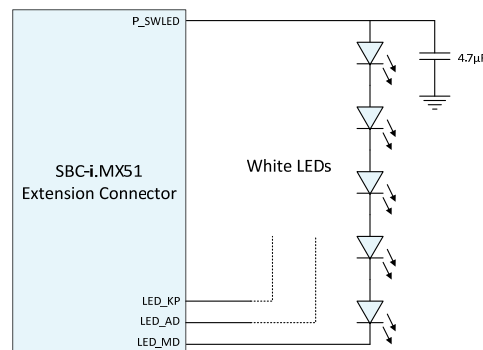

Figure 4-3: LED connection circuit
2) The P\_SWLED voltage drives the LEDs connected to the LED-driver pins. The output voltage will be set automatically by the MC13892. For LED connectivity see Figure 4-3.